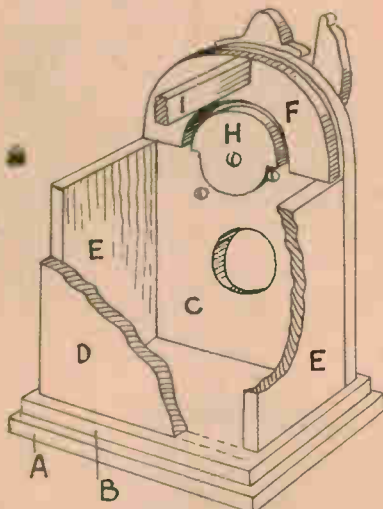
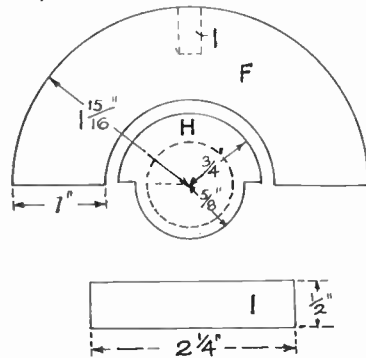

Fig. 2—A section showing constructional details
Fig. 5 The formers, disc and cross piece
Now to make the box, which is intended to hold only threepenny and sixpenny pieces. The size of the box is height $6\frac{1}{2}$ ins., and width 4 ins., while the depth, front to back, is 3 ins. The base of the box is formed of four mitred strips as (A) in Fig. 2, two strips being $4\frac{1}{2}$ ins. long and two strips $3\frac{1}{2}$ ins. long. Each end of these pieces is cut to an angle of 45 degrees, so that when glued up they form a true oblong. Wood $\frac{3}{8}$ in. or $\frac{1}{2}$ in. thick is used for pieces (A) as well as for the upper piece (B) which is glued to them. This piece (B) will measure $4\frac{1}{2}$ ins. by $3\frac{1}{2}$ ins. and will be cut as a solid oblong for the sake of strength and to form the floor of the box.
This disc is shown as (G) in the sectional diagram in Fig. 4. The lower opening in the front forms the door for the falling coins. The front and back of the box are connected up by two sides (E) in Figs. 2, 3 and 4, these two pieces being $3\frac{1}{2}$ ins. long by $2\frac{1}{2}$ ins. wide. They are glued between the front and the back uprights.
Next, draw out and cut two pieces as (F) in Fig. 5, and one piece as (H). All these pieces will be $\frac{3}{8}$ in. or $\frac{1}{2}$ in. thick. Glue the pieces (F) one to each of the inside of the front and the back, the front piece being shown in the sectional diagram. Fig. 2. Both these pieces act as formers to which the curved top of the box is glued and pinned (see Fig. 4) for the bent top. To make the top of the box
firm, a cross piece (I) (Fig. 5) is cut and glued in place.
(c) A metal cake tin with deep sloping sides can be used. It may be necessary to solder, very crudely, pieces of thick wire at random over the inner surfaces, to provide a 'key' for the putty to be applied (Fig. 5).